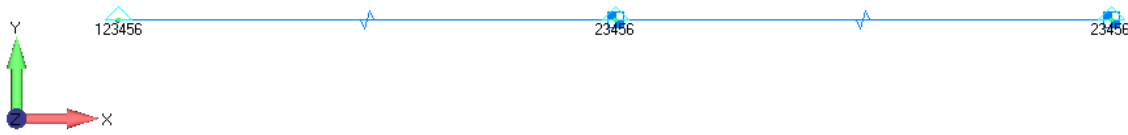

Figure 4-2. Two-DOF spring-mass model.
The two-DOF spring-mass model (Figure 4-2) consists of three nodes connected by two springs in series, with the left node fixed to ground and lumped masses on the other two nodes. The masses are only allowed to translate in the X direction. The two natural frequencies of the system are about 5% apart.
1. You will now perform a frequency response analysis on the 2 DOF model. Import the Nastran model "2dof_modes_base.dat" (Figure 4-2) into Femap and save as "2dof.modfem."